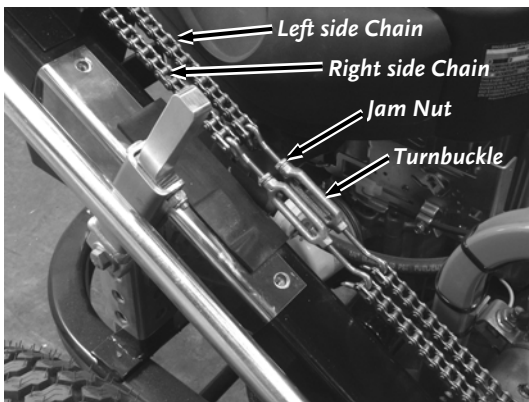

Figure 31
2. Viewing the Chains from the Operator Position, the Left Chain controls the Right Control Handle, and the Right Chain controls the Left Control Handle (**Figure 31**). Loosening the Chain will increase the amount of slack in the Chain, tightening will decrease the amount of slack in the Chain.